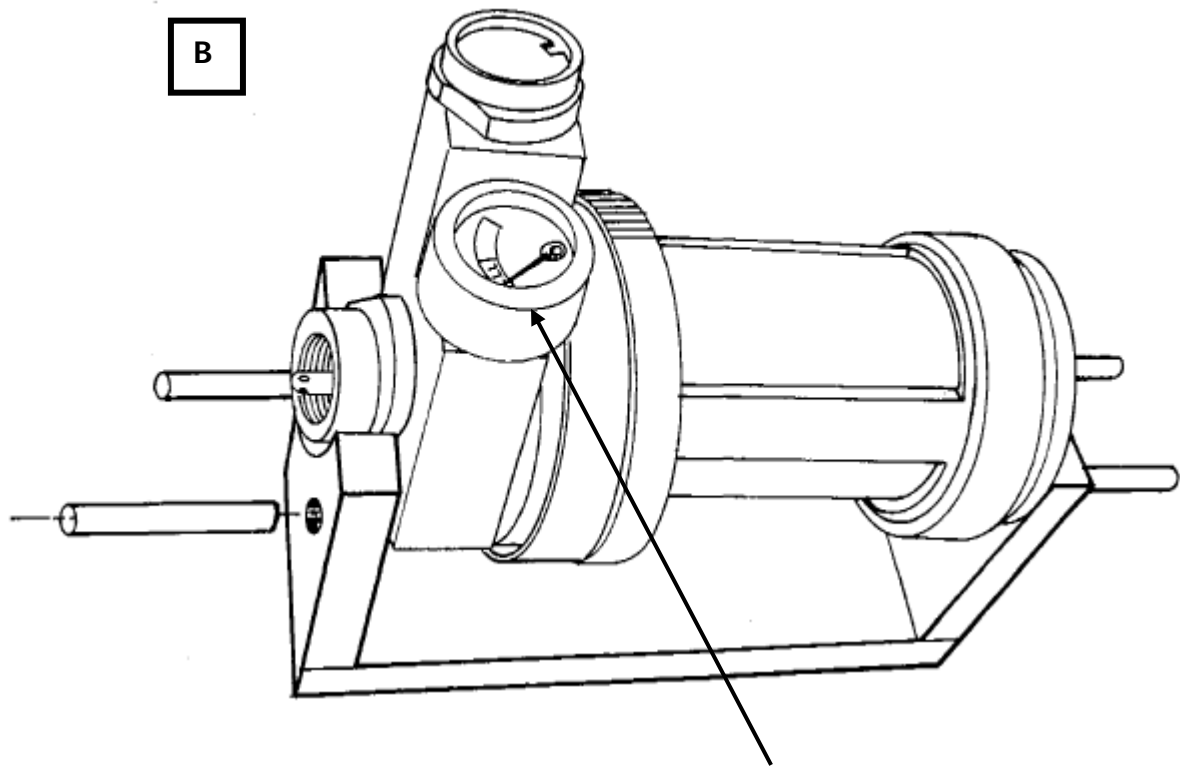

Figure 2: Needle of the pressure gage
- The indication of the pressure gage is in the green band. (Figure 2)